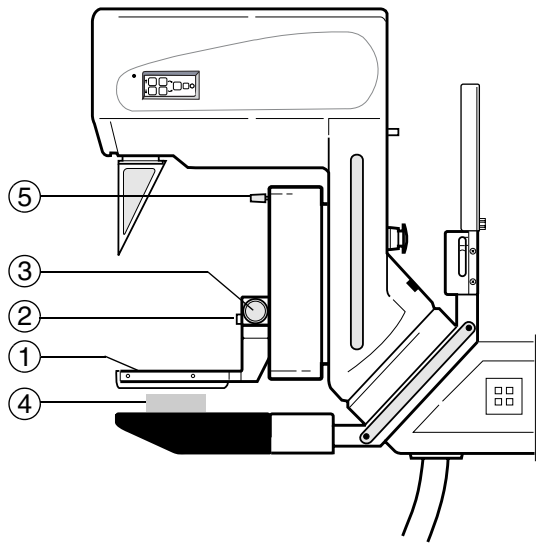

Fig. 1 Swivel arm system
1. Attach the compression plate (1/Fig. 1) if you have not already done so.
2. Check that the compression plate cannot be removed without pressing the compression plate release button (2/Fig. 1).
3. Check the function of the knobs for manual compression/decompression (3/Fig. 1).
4. Place a piece of soft material on the object table, for example a rolled up towel or a piece of foam rubber (4/Fig. 1).